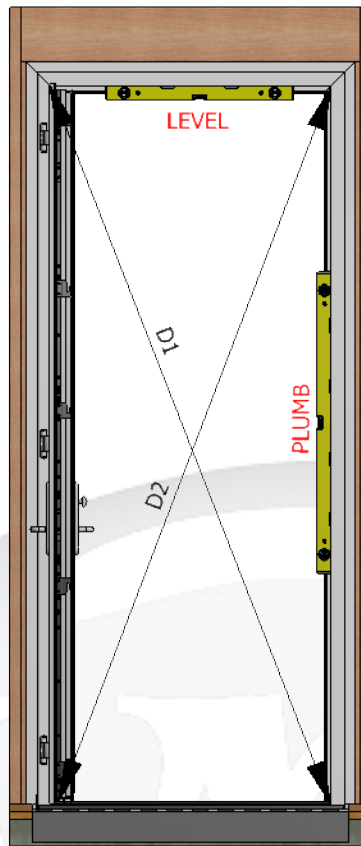

Figure 22: Frame Squaring View
- B) Using the single anchor strap located at the head of the door (See *Figure 8*) insert a temporary fastener as shown in section 5.7, A, *figure 22* to hold the door in place while preparing for proper shimming and fastening.
B) Leveling and plumbing is essential. Use a level to check the sill and jambs to determine if the frame is level and plumb. See Figure 22.